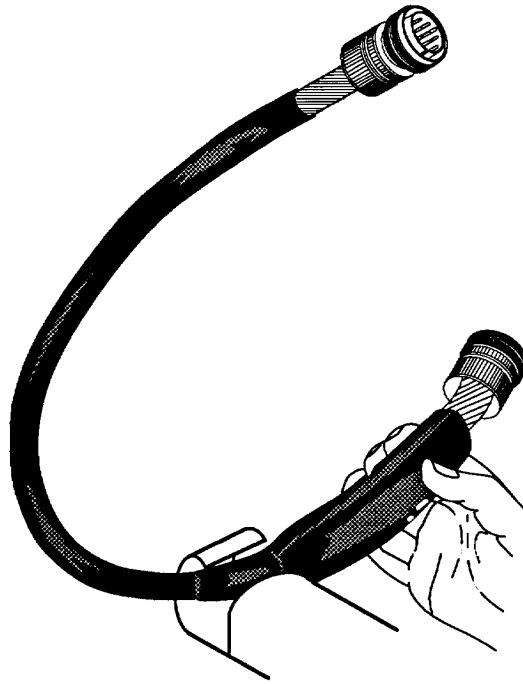

Figure 4. Heat Shrink Tubing Installation
- b. Starting at the inside and working toward connector end, shrink tubing with heat gun and reflector (Figure 4).